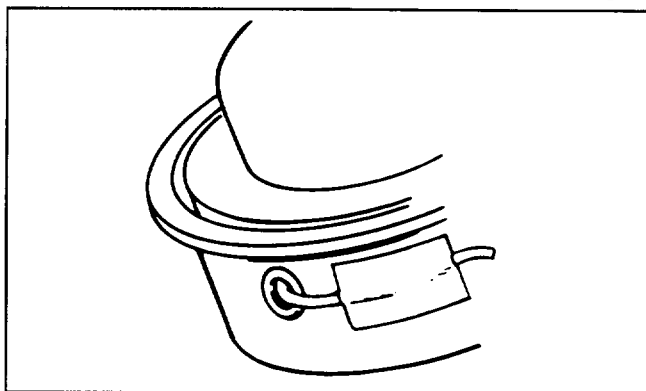

Figure 5
1. To avoid line tangle during shipment, the tip of the monofilament line has been taped to the head assembly. The tape must be removed before operation (Fig. 5).